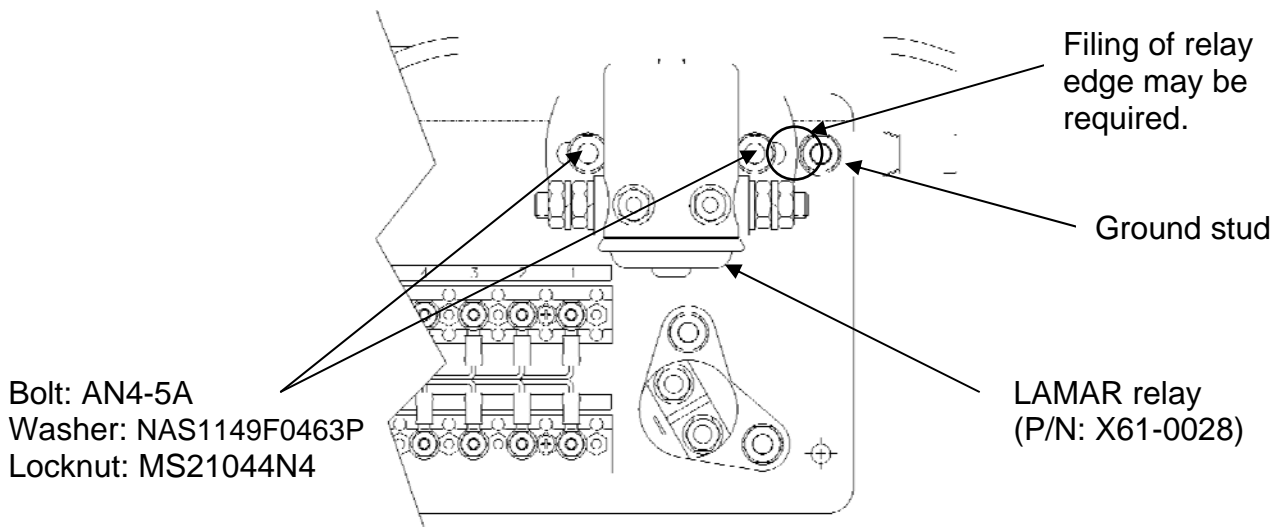

Figure 3: LAMAR relay installation
10.3.2 Install the new battery relay (P/N: X61-0028) using the supplied hardware, as shown in Figure 3.